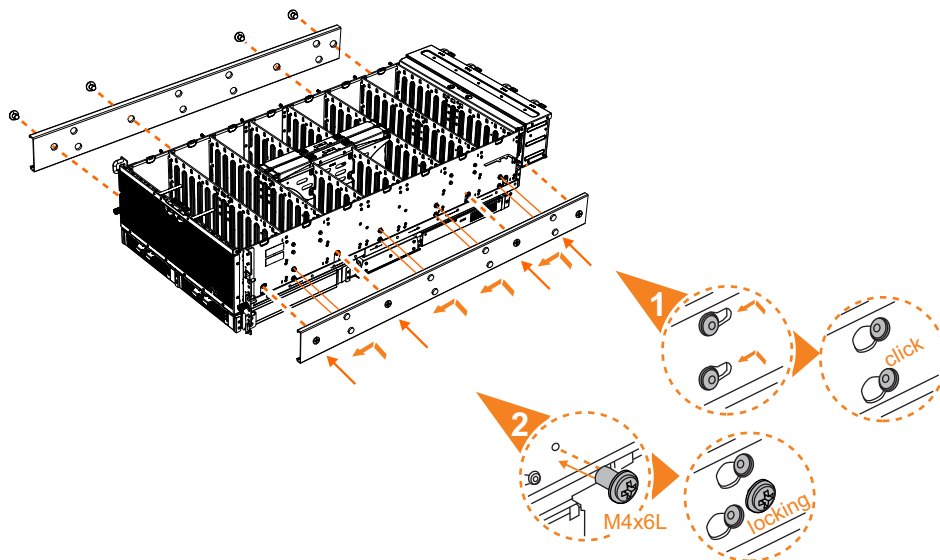

Figure 54. Attaching the inner rail section to the enclosure
5. Install the inner section of the rail onto each side of the expansion enclosure, as shown in Figure 54 on page 60.